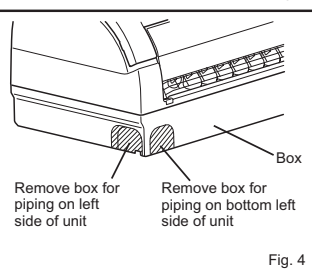
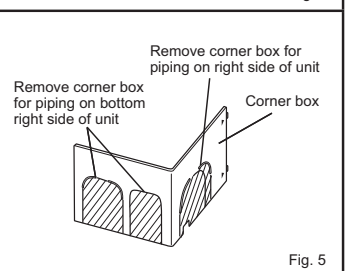

Fig. 4
Fig. 5
- According to the piping direction, remove the shaded part of the left side of box (Fig. 4) or corner box (Fig. 5). Reinstall electrical cover, corner box and front panel.
- Insert the drain hose fully into the drain pan at the back right of the indoor unit. (Fig. 4)
- Insert the drain hose into wall hole sleeve (C), and attach the upper part of indoor unit onto the installation plate (1). Then, shift the indoor unit completely to the left to make placing the piping in the back of the unit easier.
- Put a piece of cardboard from the shipping box, roll it up, hook it onto the back rib, and use it as a spacer to lift the indoor unit. (Fig. 5)
- Connect the refrigerant piping with the extension pipe (B).
- Attach the lower part of the indoor unit into the installation plate (1).
- 4) Flaring work (Fig. 4, 5). Firmly hold copper pipe in the dimension shown in the table. Select A inch (mm) from the table according to the tool you use.